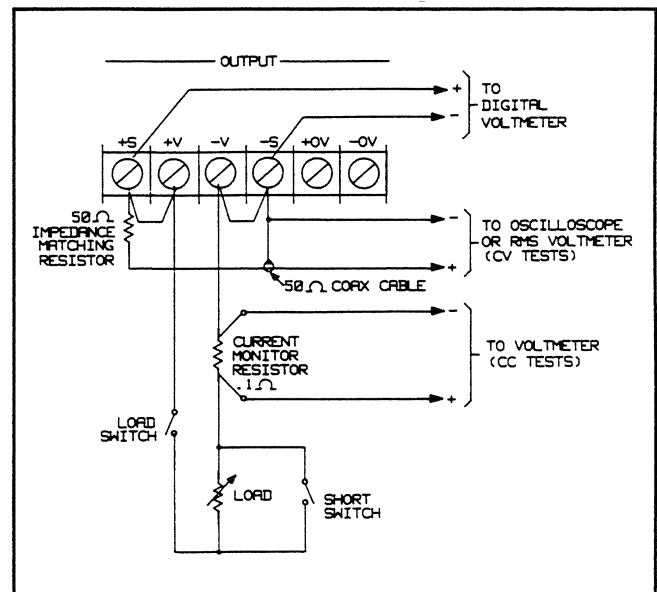

Figure 3-3. Basic Test Setup
- a. Turn off the supply and connect the output to be tested as shown in Figure 3-3 with the DVM connected between the + S and - S terminals, the Load switch closed, and the Short switch opened.
- b. Connect the output to be tested as shown in Figure 3-3 with the DVM connected between the + S and - S terminals, the Load switch closed, and the Short switch opened.
- a. Turn off the supply and connect the output to be tested as shown in Figure 3-3 to an oscilloscope (ac coupled) between the + S and - S terminals, the Load switch closed, and the Short switch opened. Be sure to keep the leads from the 50 ohm coaxial cable shield that run to the + S and - S terminals as short as possible to avoid external noise pickup.